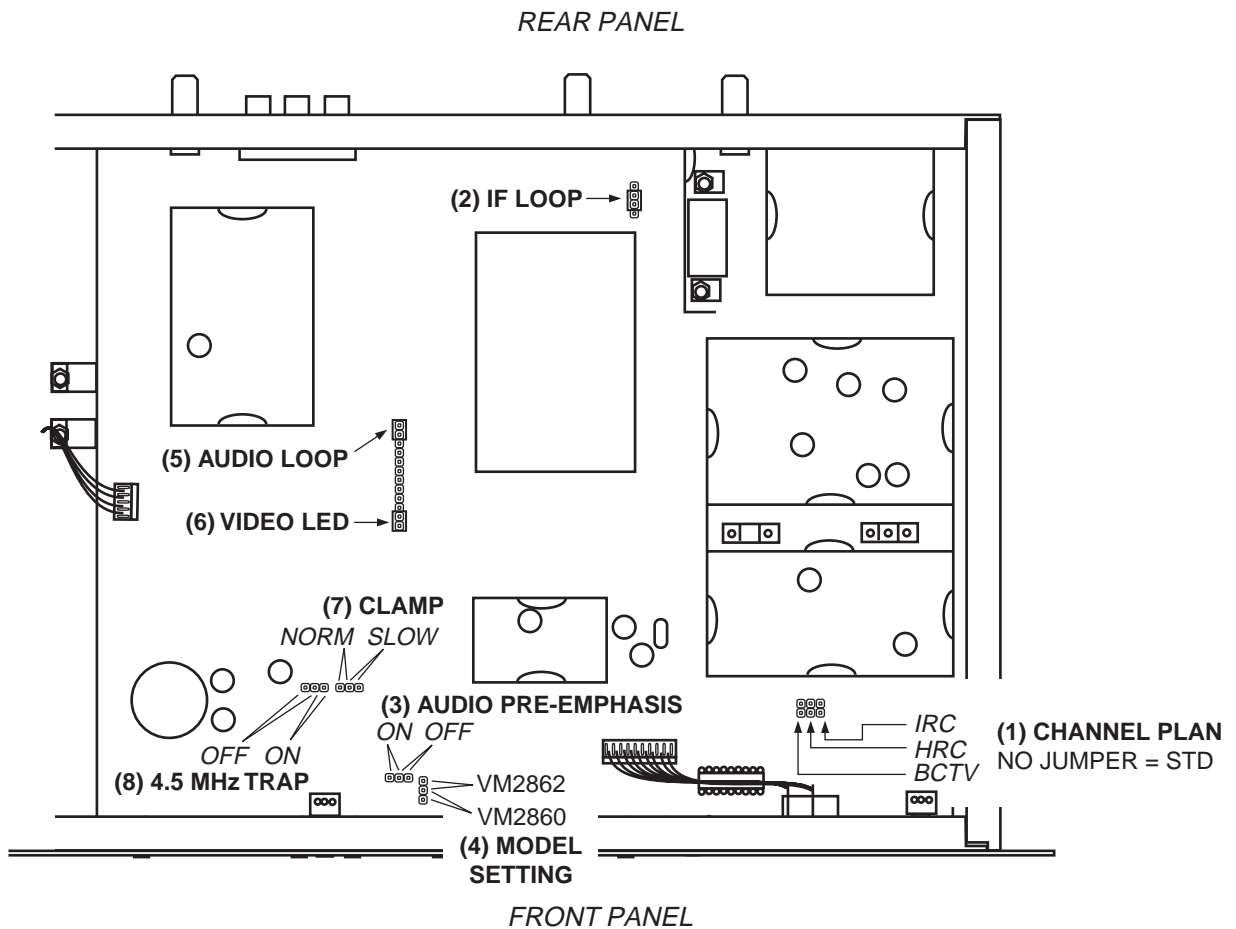

Figure 4 - INTERNAL JUMPER SETTINGS
(1) - CHANNEL PLAN JUMPER - The factory setting for this configuration is to have no jumper. This provides a standard EIA CATV plan. If IRC frequencies are required, add a shorting jumper across the two pins pointed out by the IRC arrow in Figure 4. For HRC, use the two pins indicated for HRC. If broadcast frequency assignments are needed, jumper the two pins indicated by the BCTV arrow.
(2) IF LOOP JUMPER - The factory setting is shown in Figure 4. If this jumper is removed, the 44 MHz IF loop will be opened and the modulator output will go away. This is used for special applications and will not normally be changed.
(3) AUDIO PRE-EMPHASIS JUMPER - This jumper should normally be in the ON position to enable the 75 μ Sec audio pre-emphasis. ON is the correct setting for both the VM2860 and VM2862 models. If the VM2860 model is used with an external stereo encoder that provides the